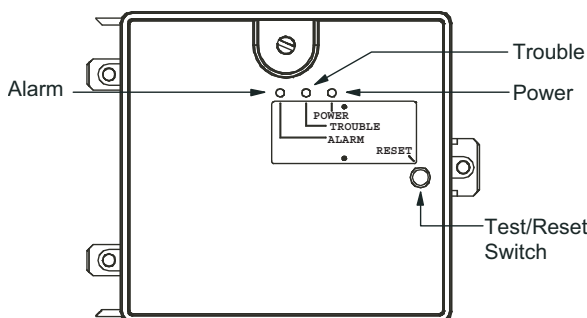

Fig. 46 — Controller Assembly
- The contacts on the controller's supervisory relay switch positions. (See Fig. 46.)